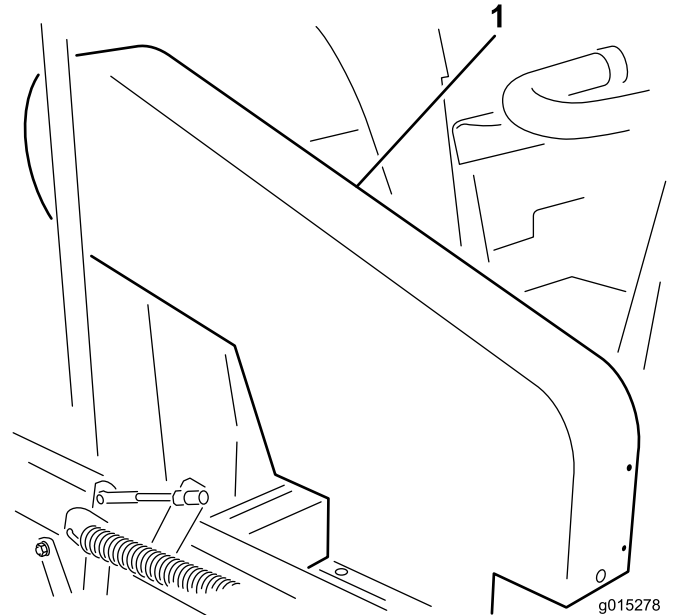

Figure 24
Note: It is not necessary to remove the upper belt guard (Figure 24) to check the belt tension. If for some reason the belt guard must be removed, remove the 4 bolts, washers, and nuts securing the guard to the frame. Never operate the machine without the guards in place.
Check the tension by depressing the belt at the mid span of the impeller and clutch pulleys with 4–5 lbs (1.81–2.27 kg) of force. The belt should deflect .5 inches (1.27 cm). If the deflection is incorrect, proceed to Adjusting the Impeller Drive Belt (page 24). If the deflection is correct, continue normal operation (Figure 24).
Check the tension by depressing the belt at mid span of the jackshaft and clutch pulleys with 4–5 lbs (1.81–2.27 kg) of force. The belt should deflect .25 inches (6.35 mm). If the deflection is incorrect, proceed to Adjusting the Jackshaft Belt (page 24). If the deflection is correct, continue normal operation (Figure 24).
1. Remove the 4 bolts, washers and nuts securing the upper shroud to the frame (Figure 24).